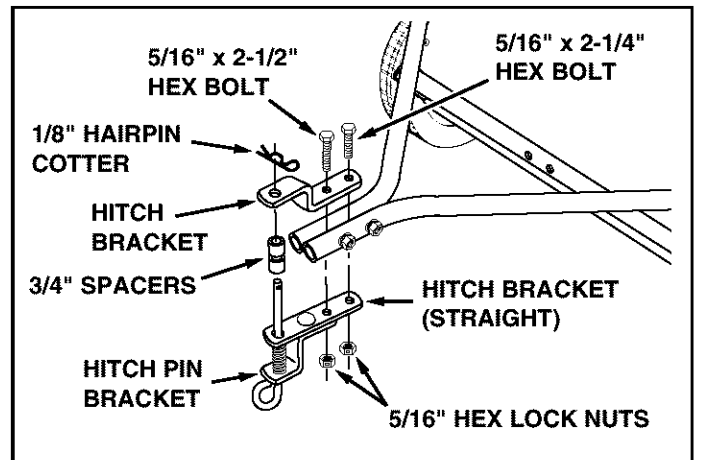
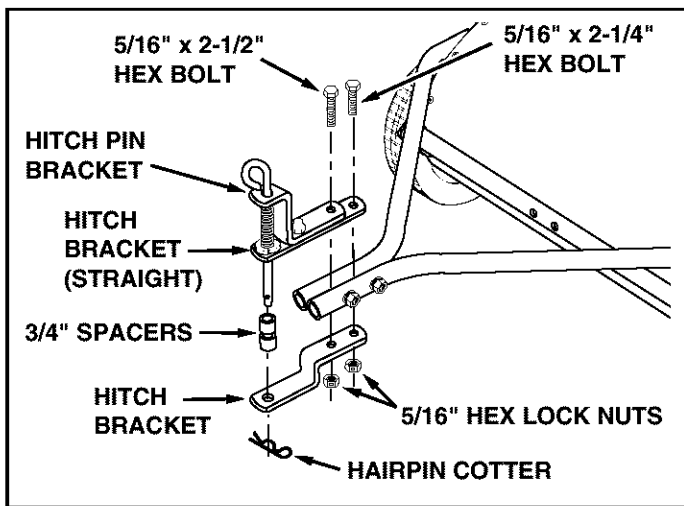

FIGURE 4
FIGURE 5
If your tractor hitch has 10" to 13" ground clearance refer to the instructions for figure 4. If your tractor hitch has less than 10" ground clearance, refer to the instructions for figure 5.
- Place the bent hitch bracket on top of the hitch tubes and place the straight hitch bracket with hitch pin underneath the hitch tubes. Fasten together using a 5/16" x 2-1/2" hex bolt (front), a 5/16" x 2-1/4" hex bolt (rear) and two 5/16" hex lock nuts as shown in figure 4. The bolts should straddle the front hitch tube bolt. **Do not tighten yet**.
- Assemble the two 3/4" spacers onto the hitch pin and secure the pin with the 1/8" hairpin cotter. See figure 4.
If your tractor hitch has 8" to 10" ground clearance refer to the instructions for figure 5. If your tractor hitch has more than 10" ground clearance, refer back to the instructions for figure 4.
- Place the bent hitch bracket underneath the hitch tubes and place the straight hitch bracket with hitch pin on top of the hitch tubes. Fasten together using a 5/16" x 2-1/2" hex bolt (front), a 5/16" x 2-1/4" hex bolt (rear) and two 5/16" hex lock nuts. See figure 5. The bolts should straddle the front hitch tube bolt. **Do not tighten yet.**
- Assemble the two 3/4" spacers onto the hitch pin and secure the pin with the 1/8" hairpin cotter. See figure 5.